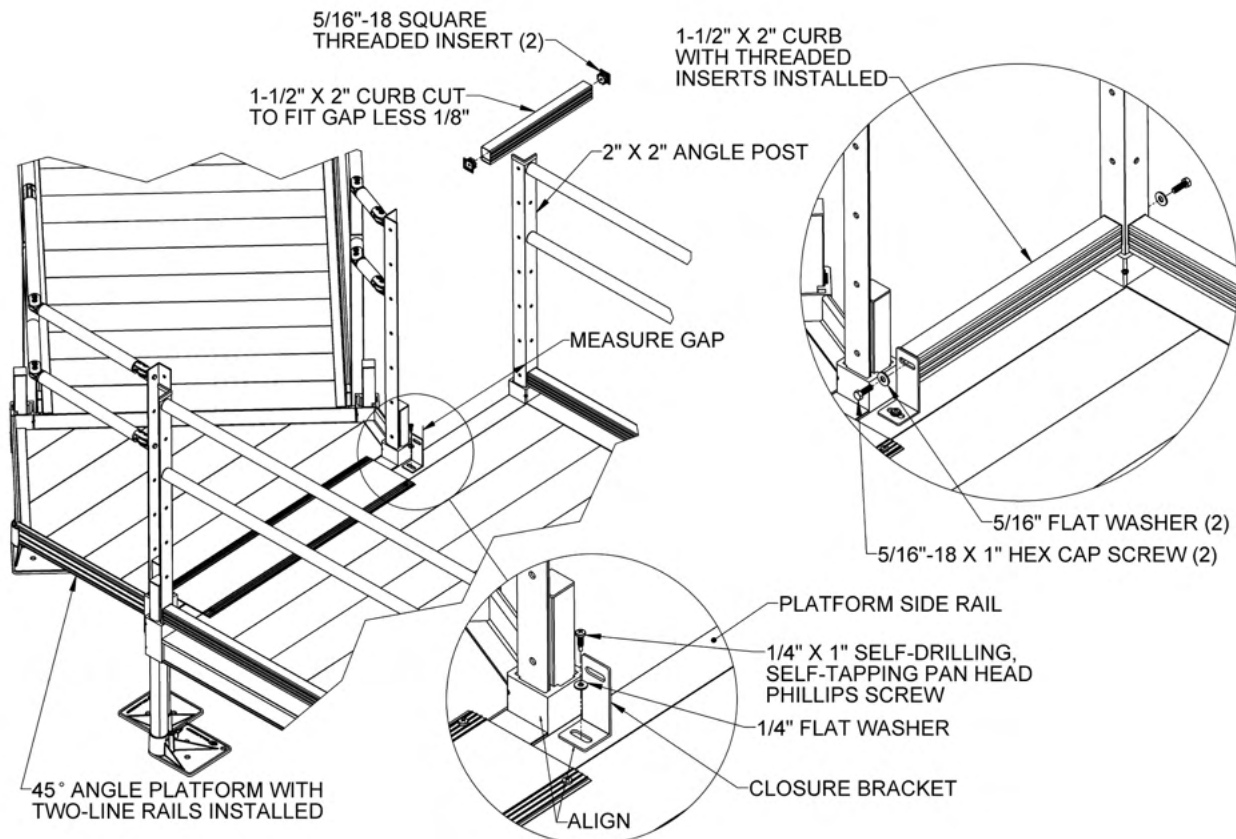

FIG. 7.24
- 7.9.10. Center the long leg of the closure bracket with respect to the 2" x 2" angle post and align the short leg (approximately) with the 45-degree Angle Platform corner pocket, then screw short leg to the platform side rail using a 1/4" self-drilling, self-tapping pan head Phillips screw and 1/4" flat washer (FIG. 7.24).
- 7.9.11. Measure the gap between the long leg of the closure bracket and the 2" x 2" angle post, then cut the 1-1/2" x 2" curb to the measured gap length less 1/8" to account for the threaded inserts which will be installed after cutting (FIG. 7.24).
- 7.9.12. Debur all sharp edges from cutting the curb and insert 1-1/2" square, 5/16"-18 threaded inserts in the ends. Use a rubber mallet or similar tool to fully seat the threaded inserts (FIG. 7.24).
- 7.9.13. Attach the 1-1/2" x 2" curb to the closure bracket and the 2" x 2" angle post using 5/16"-18 x 1" hex cap screws (FIG. 7.24).